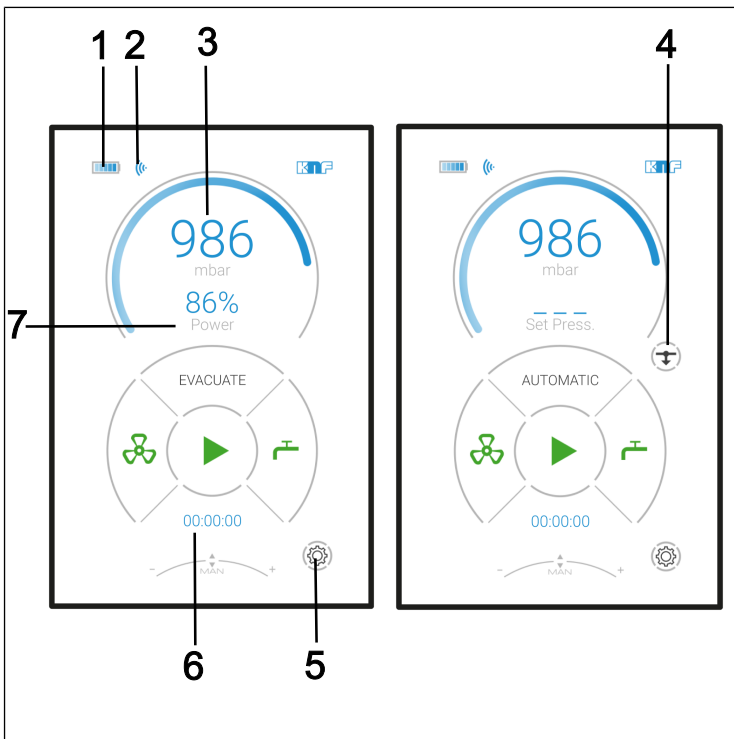
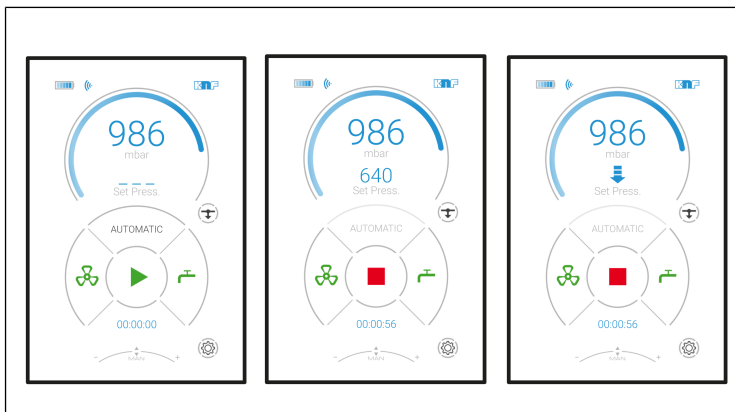

Fig. 14: Displays on the touchscreen
Fig.20: Automatic function workflow
- Displays of the most important process variables (Fig. 14);
To select the menu language, go to Settings (Fig. 14/5).
- To end "temporary pressure regulation", the process must be stopped by pressing the symbol (Fig. 14/4).
If a boiling point is detected in *Automatic* mode, the process remains at the detected boiling point (actual pressure) and switches to a temporary pressure regulation mode. If pressure reduction (Fig. 14/4) is inactive, regulation remains permanently at the detected boiling point. If pressure reduction (Fig. 14/4) is active, an attempt is made to approach the next boiling point after about 30 seconds. When pressure reduction is active, this process is repeated continuously (see Fig. 20).
If automatic pressure reduction (Fig. 14/4) is then activated again, the arrow spears in the display again after about 25 seconds.